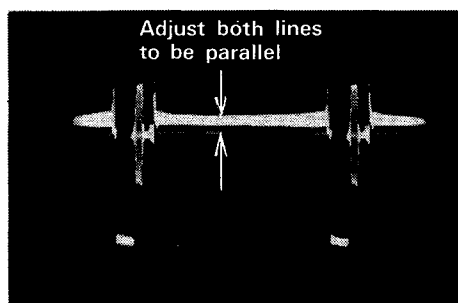

Fig 7.31
- (1) Cap the lens (or close the iris control mechanism)
- (2) Connect the oscilloscope probe between the PAL-type VIDEO output and the GND terminals on the SSG and Encoder PCB (CA 3501A)
- (3) Adjust VR01 **SHADING CORRECTION** potentiometer on the Video Process PCB (CA 1501A) so that the signal level can be maintained in parallel with the zero level as shown in Figure 7.31.